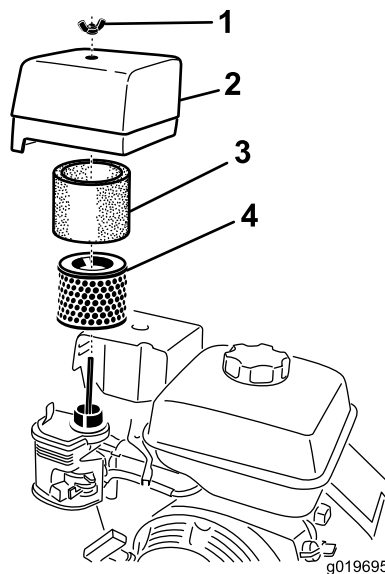

Figure 17
3. Remove the nut that secures the cover (Figure 17).
- Remove the foam and paper elements from the base (Figure 17).
- Remove the foam element from the paper element (Figure 17).